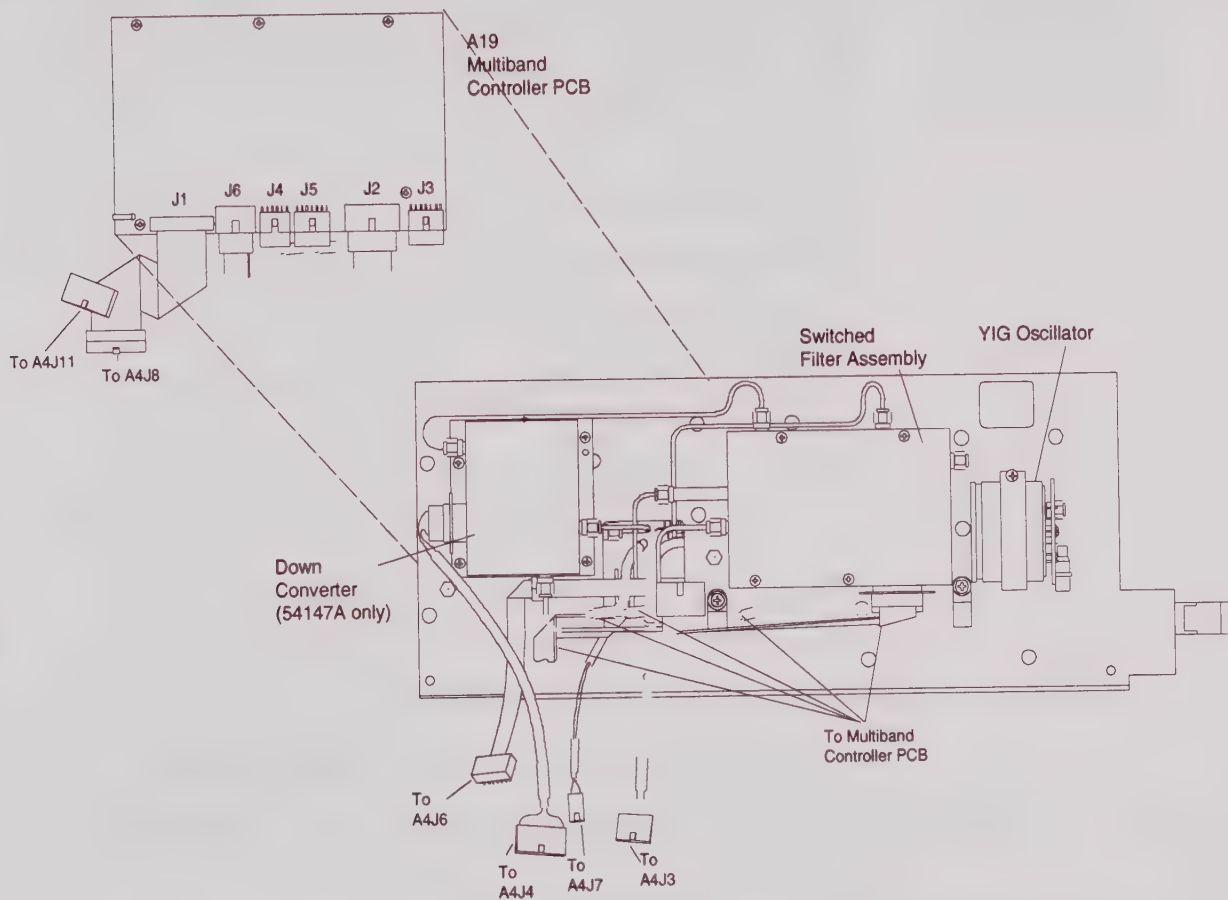

Figure 7-17. Models 54137A and 54147A RF Deck Parts Location (Internal Side Detail)
- Step 1.** Remove the marker connection from A19J5 on the Multiband Controller PCB (Figure 7-17).
- Step 1.** Remove the connection from A19J4 on the Multiband Controller PCB (Figure 7-17).
Step 2. Remove the Switched Filter (See Figure 7-17 and procedure on next page).